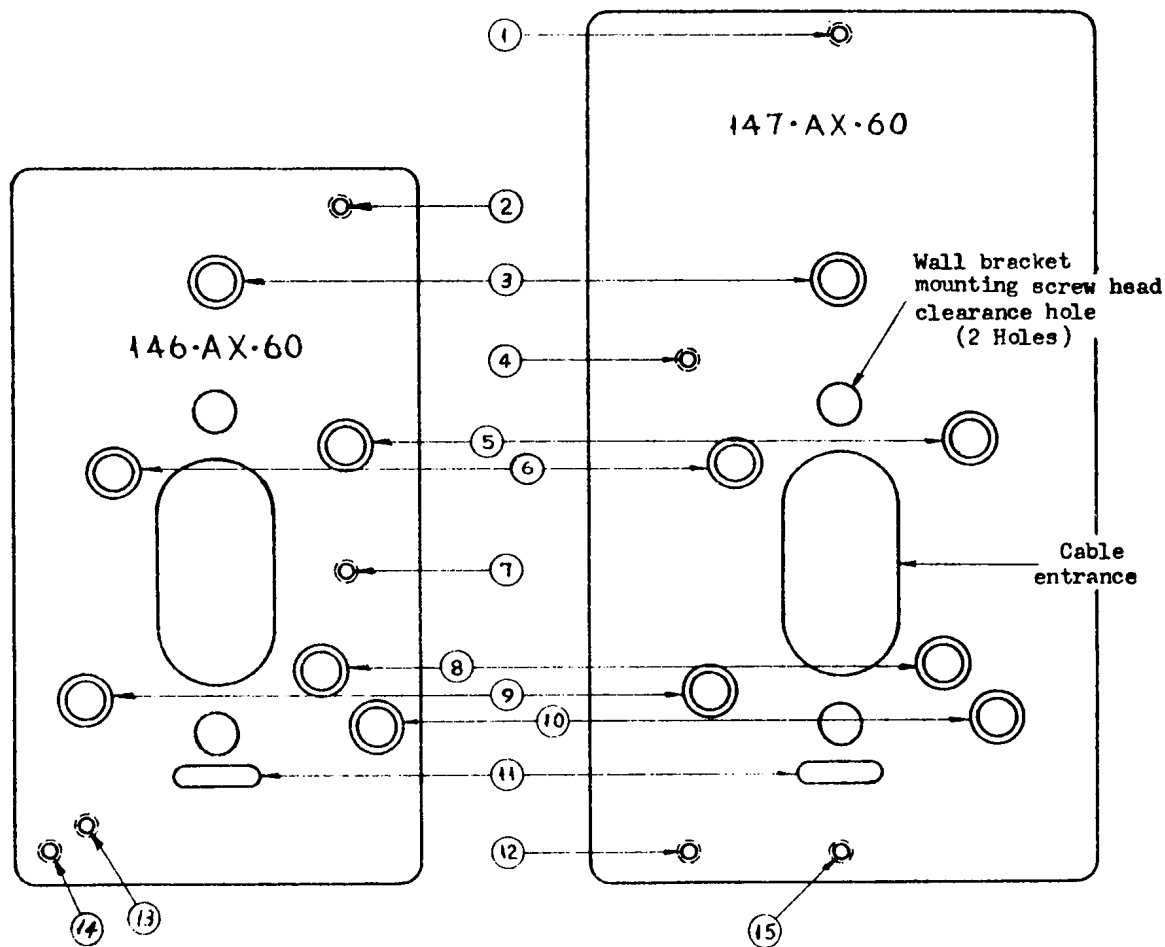

FIGURE 1
2.02 Figure 1 of this Addendum furnishes a description of these Adapters and the various taps provided for mounting the apparatus are shown. The Table in Figure 1, shows the mounting applications, proper screws to use, and designates proper mounting holes for the equipment to be installed.
Each Adapter is packaged with assorted screws needed to attach the equipment used to the Adapter. The Table in Figure 1, designates the proper screws to use for each piece of apparatus.